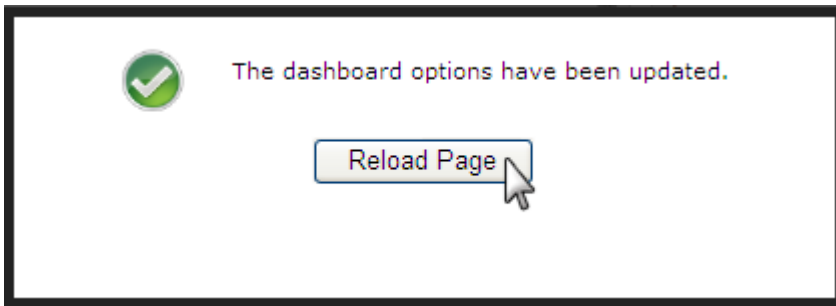

Fig. B3
3. Click *Reload Page* in the confirmation window (Fig. B3).